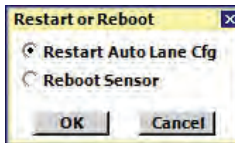

Figure 7.9 – Restart or Reboot Window
- 1 Click the **Restart/Reboot** button and the Restart or Reboot window will appear (see Figure 7.9).